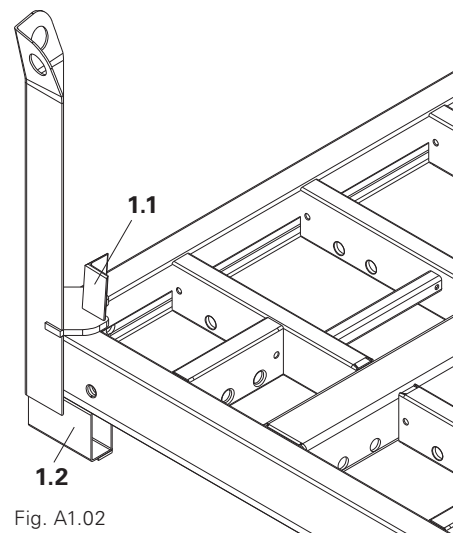

Fig. A1.02
1. Place the first panel with the formlining facing downwards on the rectangular tube (1.2). (Fig. A1.02)